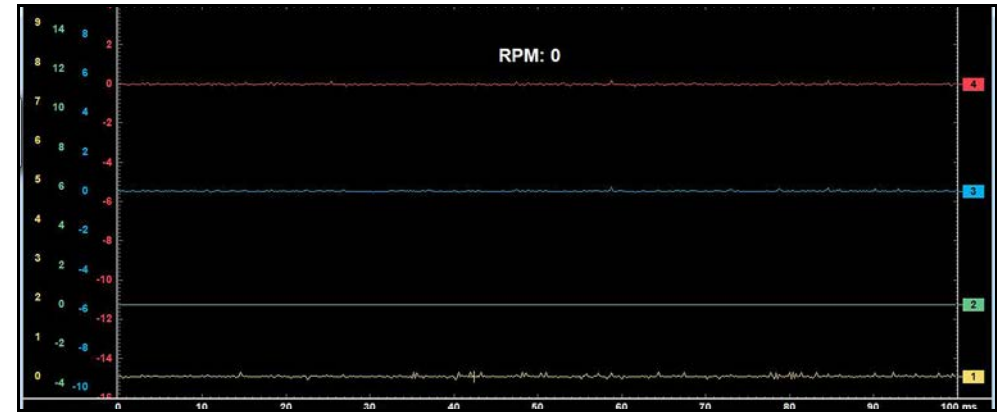

Figure 9-13 Sample Show RPM selected
- **Show RPM**—adds an engine speed field at the top of the screen (Figure 9-13).